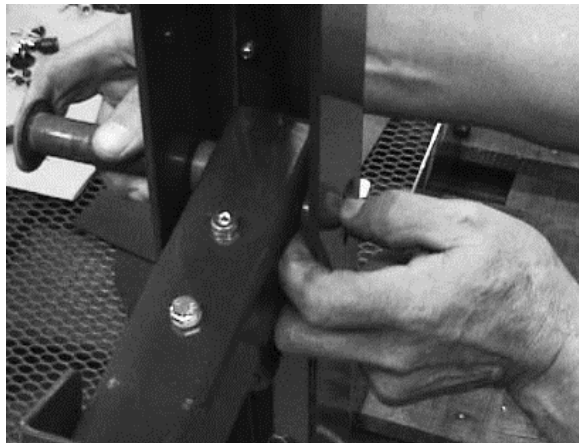

Figure 23. Align Pin Link with Vertical Arm and Knuckle Link Arm
11. Refer to **Figure 23**. Re-install two (2) spacers between the vertical arm and upper knuckle link arm.